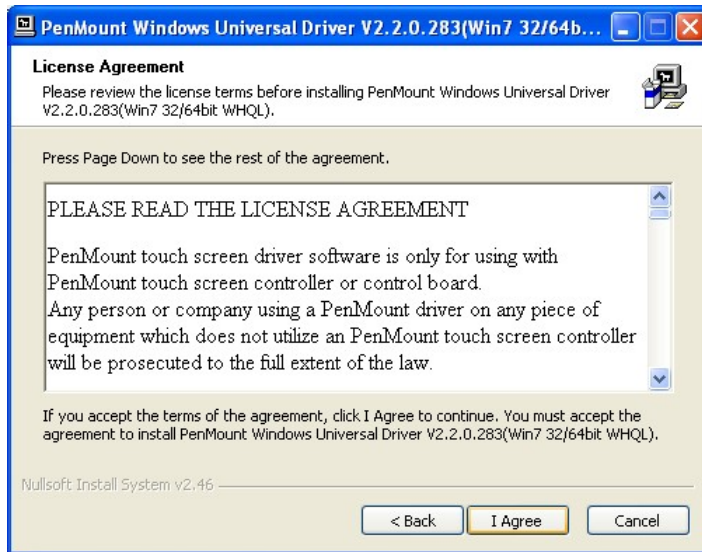

Figure 5-2: License Agreement
Step 8: The license agreement in **Figure 5-2** appears. Accept the terms of the agreement by clicking **I Agree**.